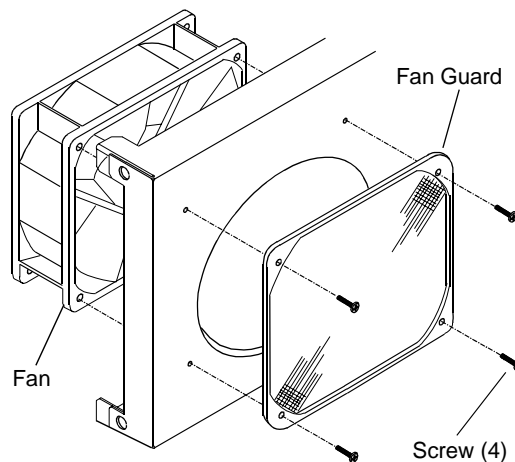

Figure 6-8. Exploded View of Cooling Fan Assembly
- Step 1.** While supporting the fan from the backside, remove four corner screws and pull the fan guard straight away (Figure 6-8).